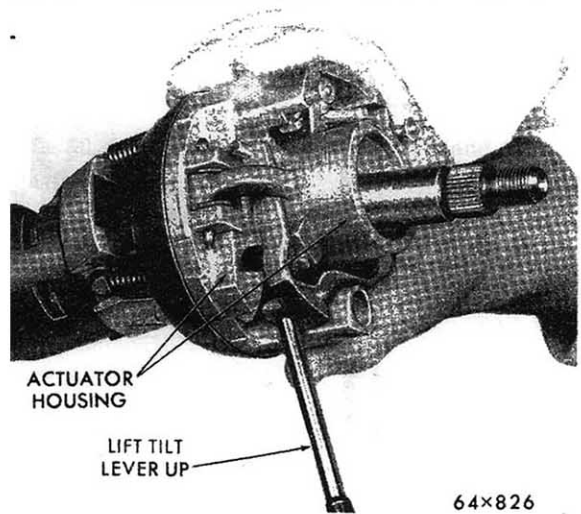

Fig. 26 - Removing or Installing the Actuator Housing
- (12) Hold the puller screw from turning and pull the pivot pin from the actuator housing by turning the tool nut in the clockwise direction.
- (13) Slightly lift the release lever to disengage the lock shoes from the lock pins and remove the actuator from the column assembly (Fig. 26).